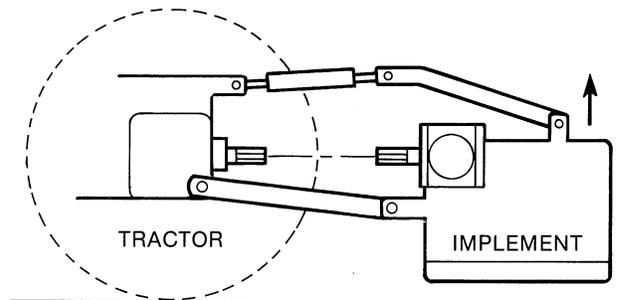

Figure 14
- Raise the implement until the gearbox input shaft is level with the tractor PTO shaft as shown in Figure 14.